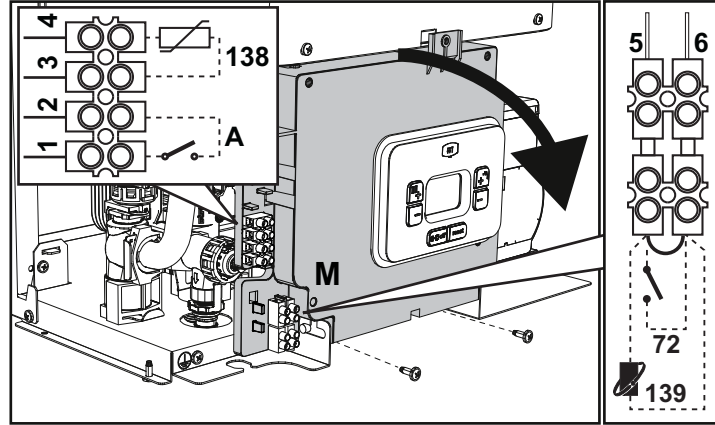
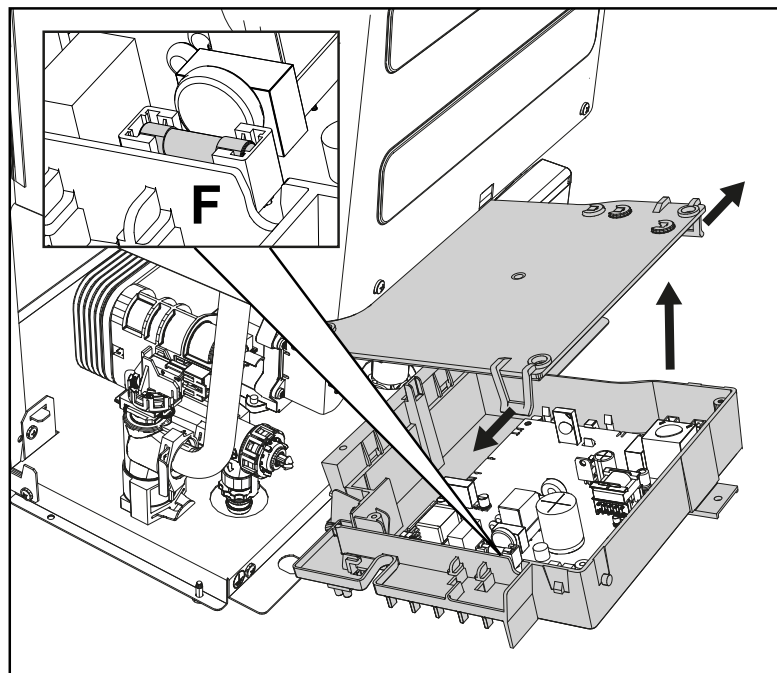

fig. 18
fig. 19
Remove the front panel (*** 'Opening the front panel' on page 29 ***) to access the terminal block (M) and fuse (F) by proceeding as follows (fig. 18 and fig. 19). **The terminals indicated in fig. 18 must be with voltage-free contacts (not 230V).** The arrangement of the terminals for the various connections is also given in the wiring diagram in fig. 55.
ON/OFF (A fig. 19) configuration